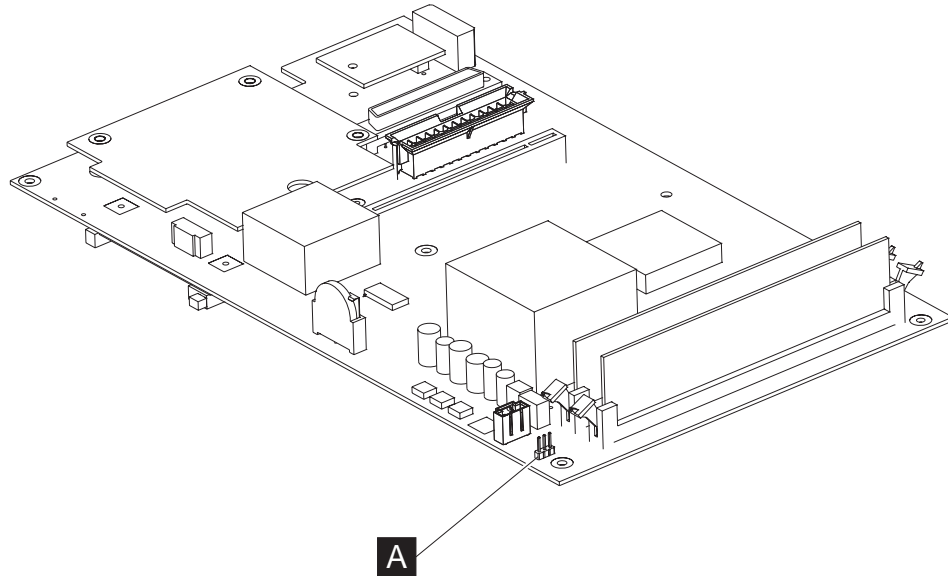

Figure 52. CMOS reset jumper J25
2. Locate the CMOS reset jumper (J25) on the system board. See **A** in Figure 52 on page 73.